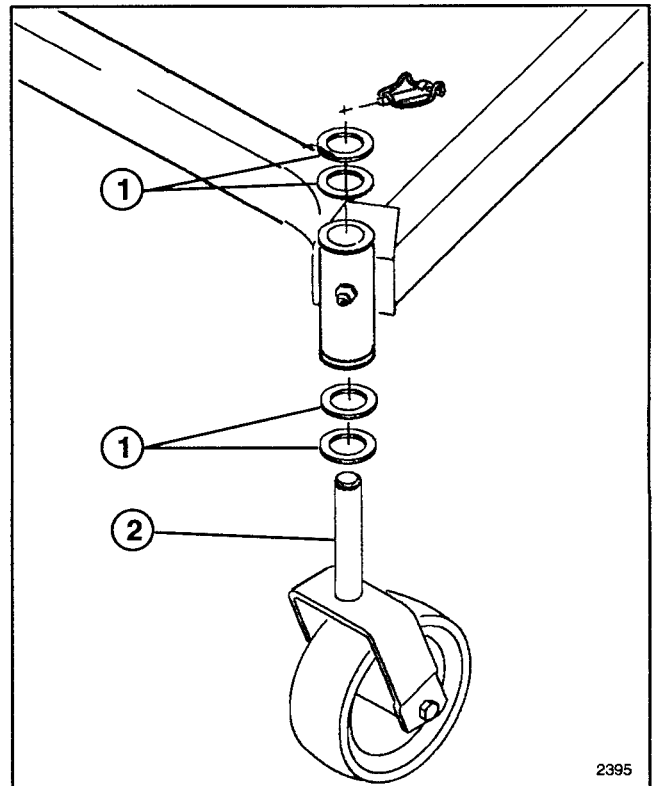

Figure 20
3. To change front-to-rear pitch move equal number of thrust washers on both front castor shafts. Move thrust washers from top to bottom to raise, or bottom to top to lower pitch (Fig. 20).
3. To change side-to-side leveling move thrust washers on one front castor shaft only. Move thrust washers from top to bottom to raise, or bottom to top to lower (Fig. 20).